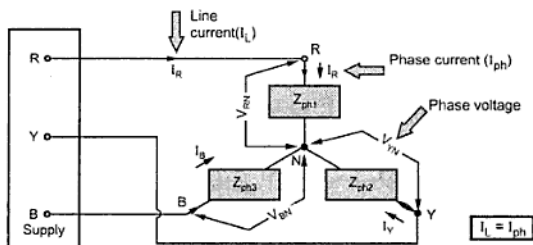

Fig. 6.9 Star connected load
i) Star connected load : There are three different impedances and are connected such that one end of each is connected together and other three are connected to supply terminalis R-Y-B. This is shown in the Fig. 6.9.
In the diagram shown in the Fig. 6.9 V_{RN} , V_{YN} and V_{BN} are phase voltages while I_R , I_Y and I_B as shown in the Fig. 6.9 are phase currents. The phase voltages are denoted as V_{ph} while the phase currents are denoted as I_{ph} . Generally suffix N is not indicated for phase voltages in star connected load. So $V_{ph} = V_R = V_Y = V_B$
It can be seen from the Fig. 6.9 that,